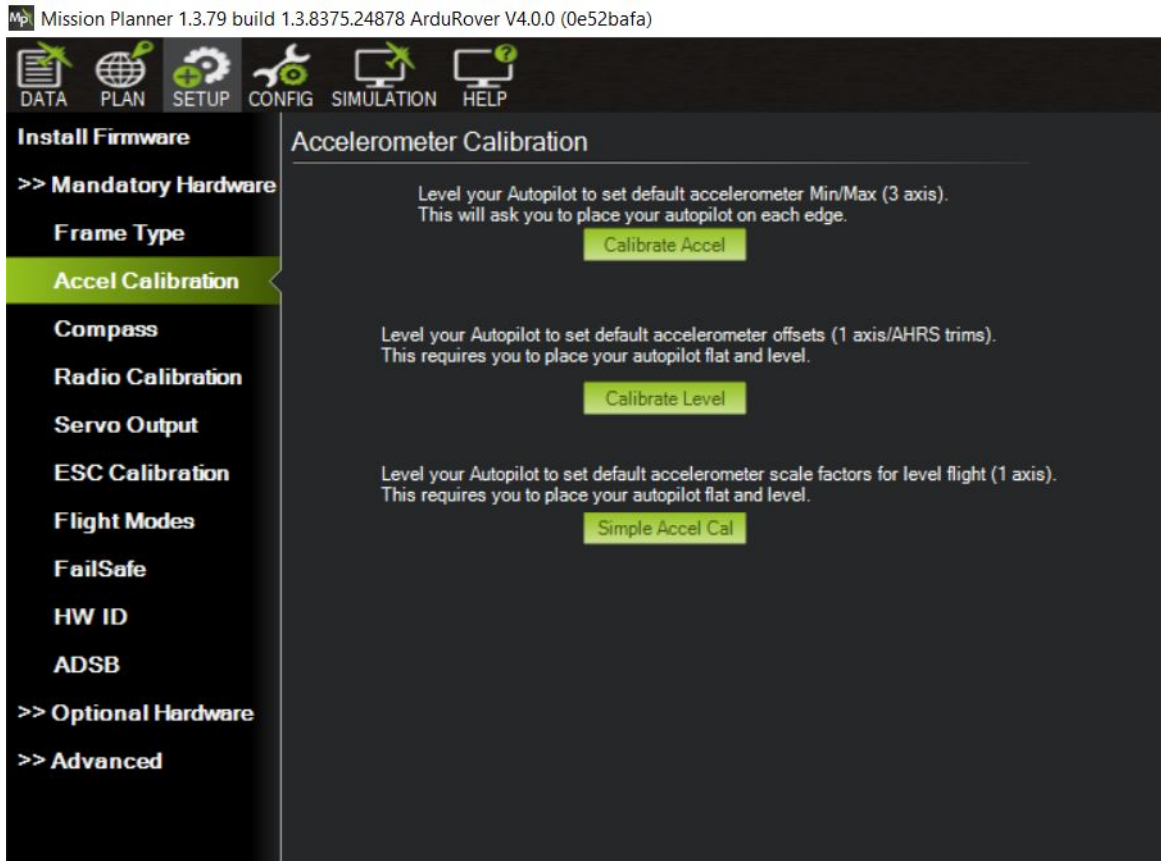

Figure 83: Accel Calibration
13. Select Calibration Level. (See Figure 83)